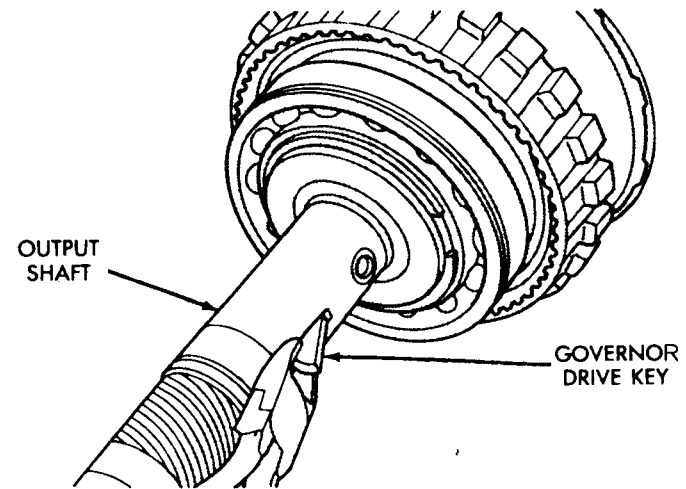

Fig. 19 Governor Drive Key Removal
(4) Remove governor drive key (Fig. 19).